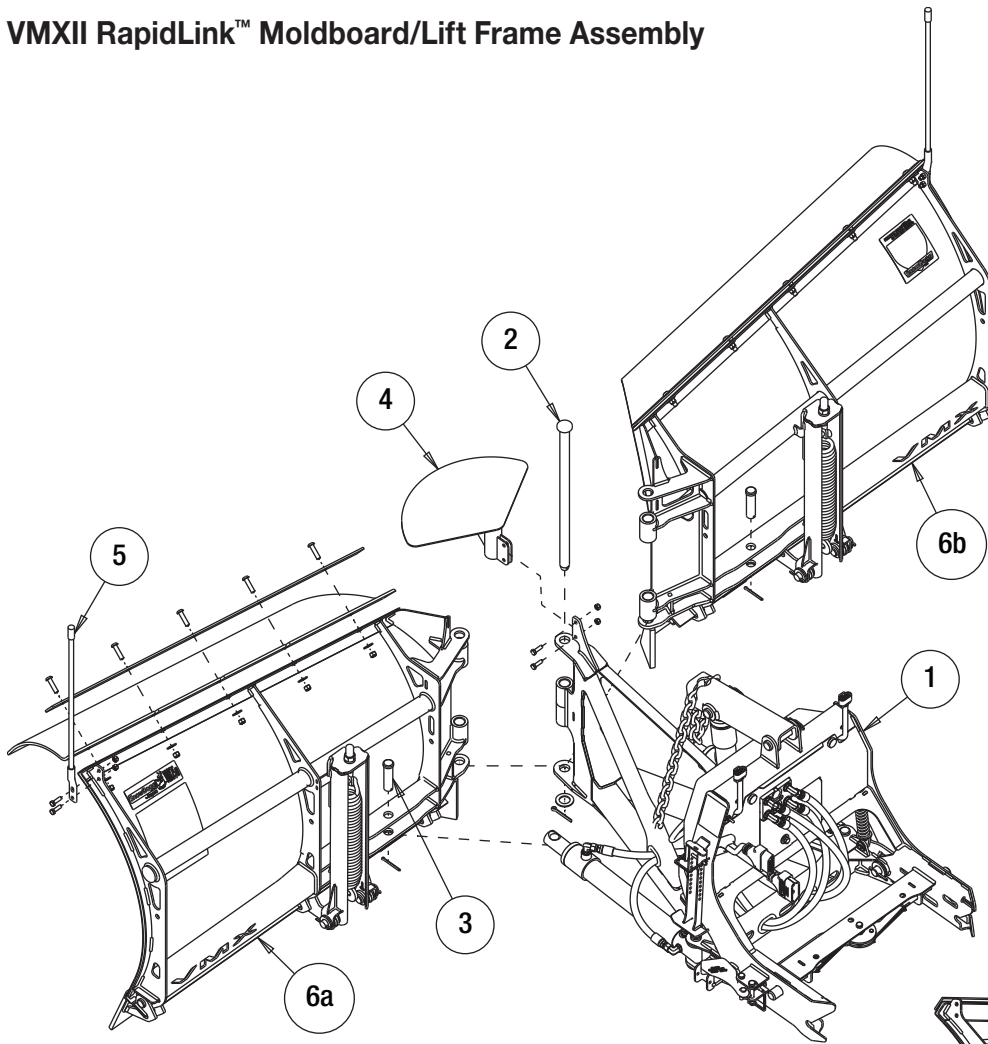
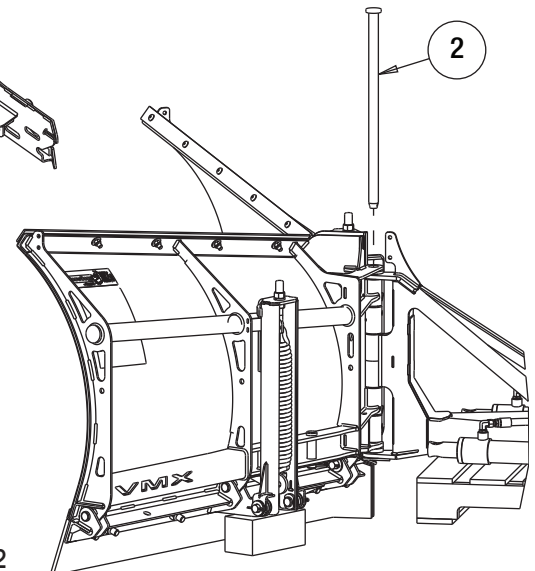

Fig. 1
Fig. 2
**1.** Assemble the v-plow MOLDBOARD wings (6a and 6b) to the LIFT FRAME (1) as shown in Fig. 1 and Fig. 2 using the HINGE PIN KIT (2). Tap the hinge pin down, adjusting the wing positions as needed to allow for complete assembly.
**2.** Attach both angle cylinders on the LIFT FRAME to the MOLDBOARDS as shown using the 7/8in CLEVIS PIN KIT (3). The wings should move freely to allow attachment to the cylinder rods.
- 3.** Install the CENTER DEFLECTOR CAP (4) with hardware as shown.
- 5.** Install the BLADE GUIDES (5) as shown.